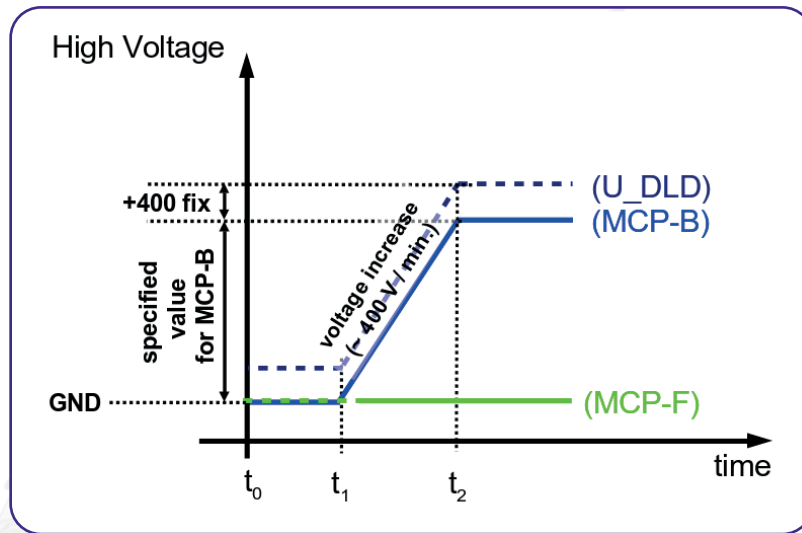

Figure 3: Schematic sketch on voltage ramping during “Start-Up” procedure.
- Turn on the high voltage carefully. The voltage increase should not exceed 400V per minute. A schematic sketch on how to ramp the voltages during the "Start-Up" procedure is given in **Figure 3**. The starting operation voltage is specified in the specification sheet of the detector.